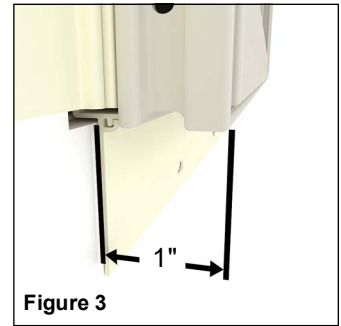

Figure 3
1. Casing installation requires a minimum window or door projection of 1" (25). Projections greater than 1" (25) may require connection bars to be shimmed away from the sheeting/WRB (weather resistive barrier) for compensation. See *figure 3*.